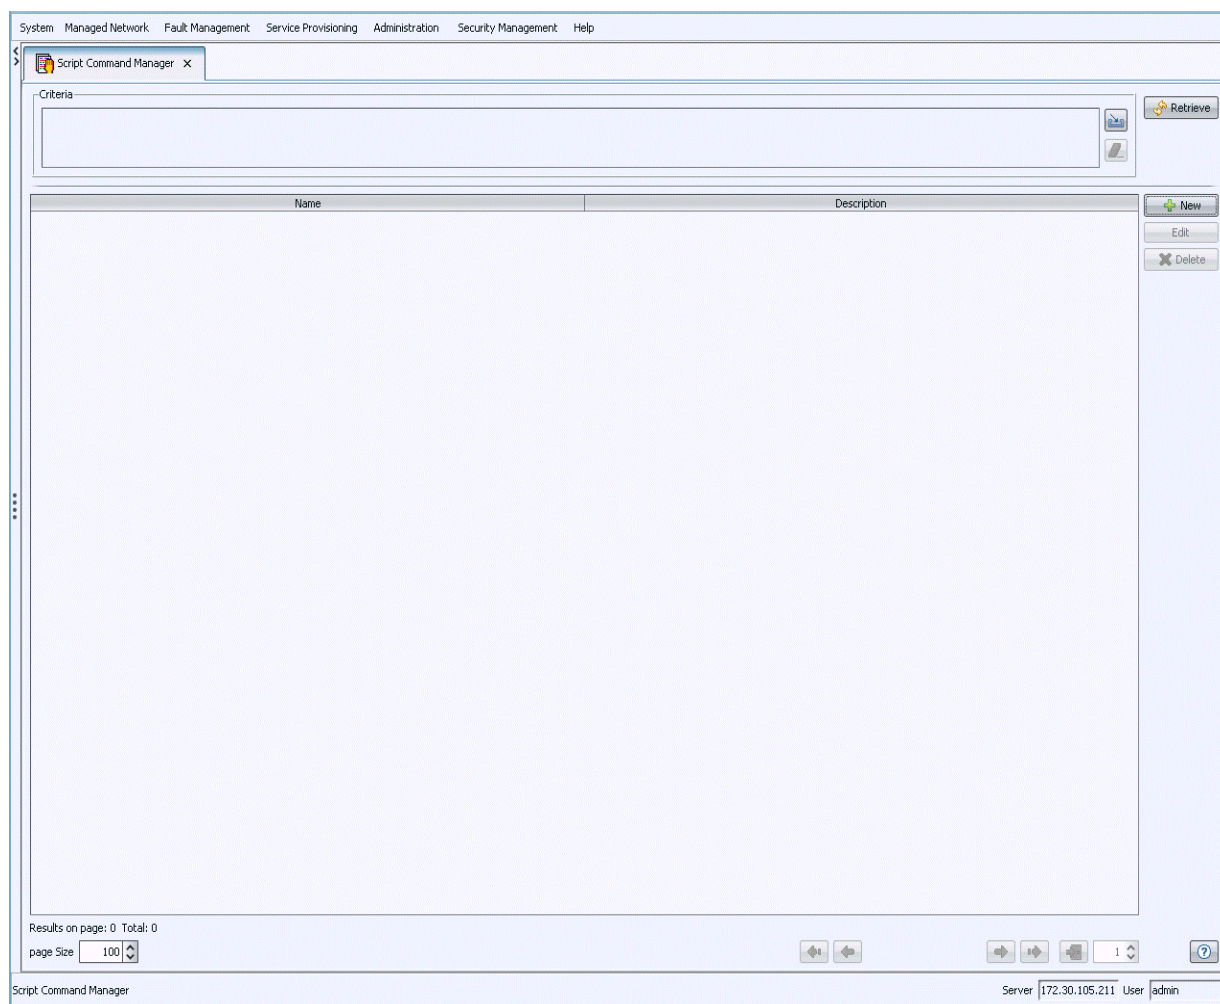

Figure 3-21: Script Command Manager
- 1 In the Script Command Manager window (Figure 3-21), select the command to remove and click **Delete**. A confirmation message is displayed.